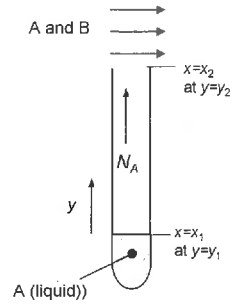

Fig.1
この  $N_A$  式を用いることで, 円管の底の液体(A)が蒸発し, 管内の空気(B)中を拡散し, 最上部から排出される際のモル流束 (Fig. 1 を参照) を求めたい。この液表面 ( $y = y_1$ ) でのガス相における成分 A のモル分率を  $x_1$  とし, 成分 B は溶液 A に溶解/放出されないとする。管外側は A と B の混合気体が流れており, 管トップ ( $y = y_2$ ) での A 成分の組成は  $x_2$  で一定とする。
$N_A = J_A + x_A (N_A + N_B) = -DC_t \frac{dx_A}{dy} + x_A (N_A + N_B)$ , where  $N_i$  and  $x_i$  are the molar flux and mole fraction of component i.  $C_t$  and  $D$  are the total mole concentration and the diffusivity. Using the  $N_A$  equation, we would like to obtain molar flux (see Fig. 1) when the liquid (A) at the bottom of a tube evaporates, diffuses through the air (B), and is exhausted from the top. Assume that the mole fraction of component A in the gas phase at the liquid surface ( $y = y_1$ ) is  $x_1$  and component B is not dissolved in/ released from the solution A. A mixture of A and B gases is flowing on the outside of the tube, and the composition of component A at the top of the tube ( $y = y_2$ ) is assumed to be constant at  $x_2$ .
- (1) Describe the physical meaning of the terms,  $J_A$  and  $x_A(N_A + N_B)$ , of the  $N_A$  equation, and answer if each term is positive or negative.
- (2) Derive an equation for the molar flux of component A at steady state.
- (3) The system consisting of water as component A and air as component B is kept atmospheric ( $1.01325 \times 10^5$  Pa) and isothermal at 293 K. Water vapor evaporates and diffuses through the air with the diffusion length,  $y_2 - y_1 = 0.20$  m. The diffusivity of water vapor at 293 K is  $0.25 \times 10^{-4}$   $\text{m}^2/\text{s}$ , and the vapor pressure of water is  $2.341 \times 10^3$  Pa. Assume air outside the tube is dry ( $x_2 = 0$ ). Calculate the molar flux of water vapor, and obtain mass-transfer coefficient,  $k_c$  [m/s].